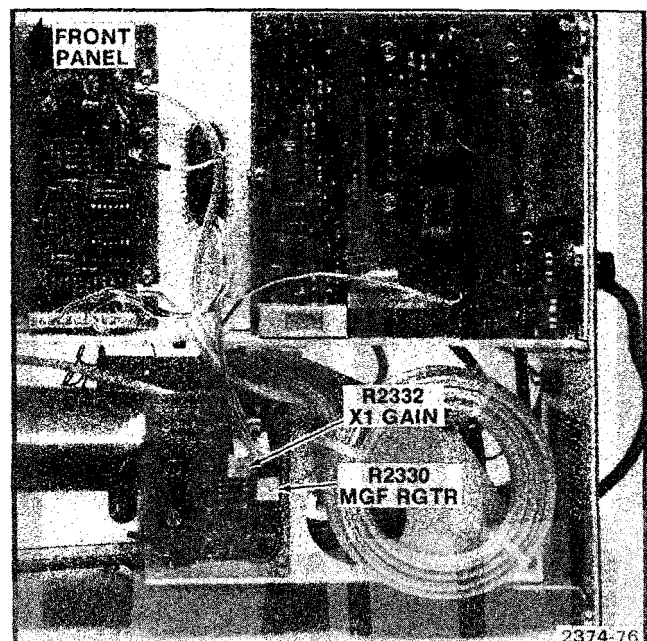

Figure 4-11. Horizontal adjustment locations on A14 Horizontal Output board.
c. ADJUST—X1 Gain (R2332, see Figure 4-11) for one marker per division over the center 8 divisions (set the Horizontal POSITION control as required to align the time markers with the vertical graticule lines).
- ADJUST—Mgf Rgtr (R2330, see Figure 4-11) so the center time marker aligns with the center vertical graticule line.